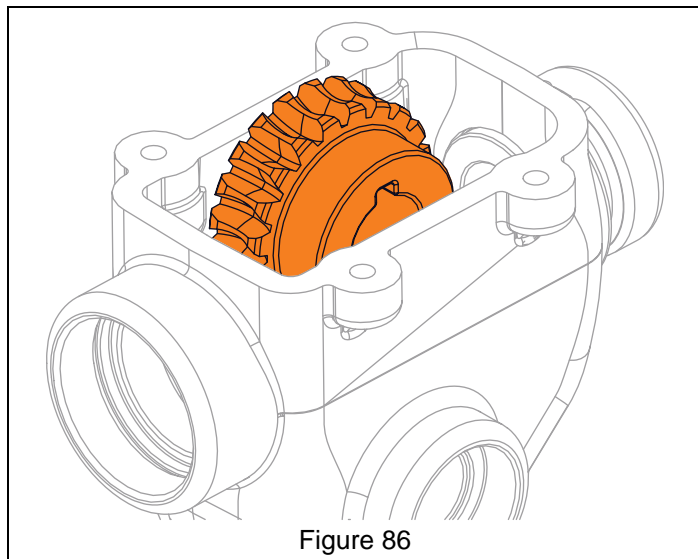

Figure 86
3. Install gear into gearcase. See Figure 86.